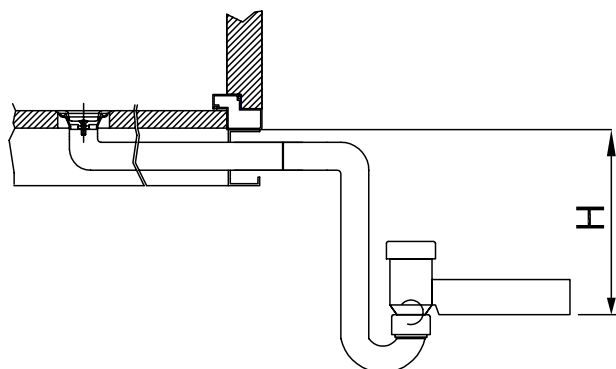

Figure 35
- Please note, that the piping from drip tray under plate heat exchangers is run below section – see Figure 35.